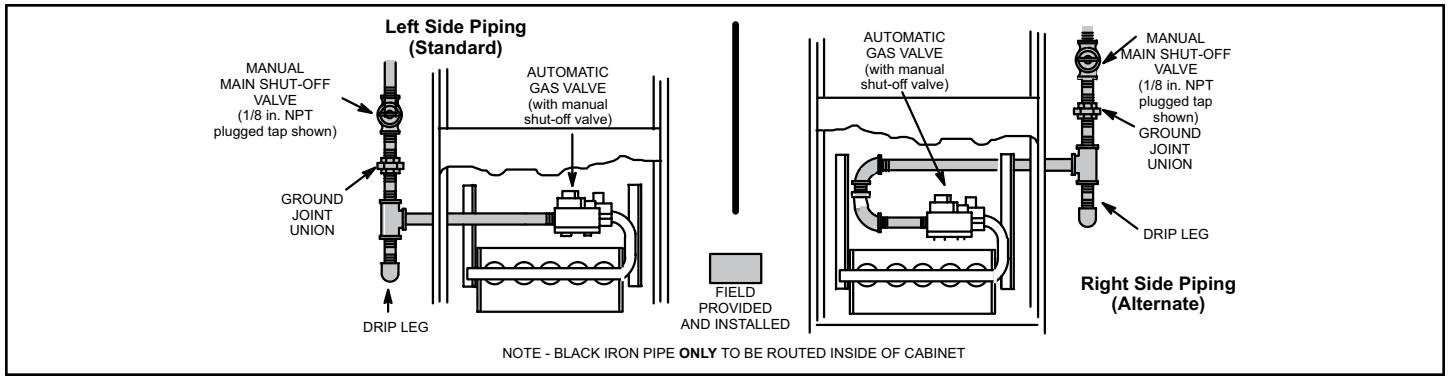

Figure 43.
1. Gas piping may be routed into the unit through either the left or right hand side. Supply piping enters into the gas valve from the side of the valve as shown in Figure 43.
3. Gas piping must not run in or through air ducts, clothes chutes, chimneys or gas vents, dumb waiters or elevator shafts. Center gas line through piping hole. Gas line should not touch side of unit. See Figure 43.